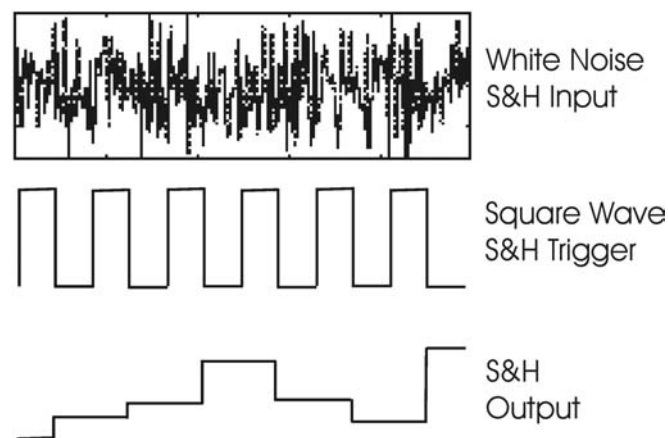

figure 11
**Sample and Hold** - This is a circuit with an input for a control voltage and an input for a trigger. Each time the trigger is fired, the circuit takes the voltage that appears at the input and holds it at the output until the next time the circuit is triggered. An LFO is a common way to trigger a sample and hold (or S&H) circuit. When an LFO is applied to the trigger input, and a random signal such as white noise is applied to the CV input, a random stepped voltage will appear at the output in time with the each cycle of the LFO. (figure 11)